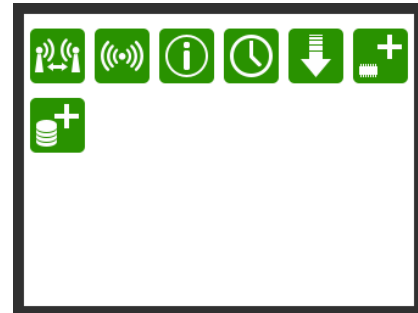

Figure 6-13 Start screen
1. In the screen (Figure 6-13) press